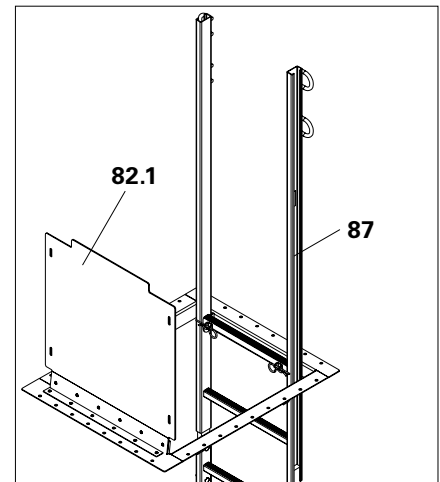

Fig. B5.12
2. Lift pre-assembled ladders (85 + 87) with the crane into the hatch and lower so that the top rung of the ladder lies in the U-profile of the hatch. (Fig. B5.12)